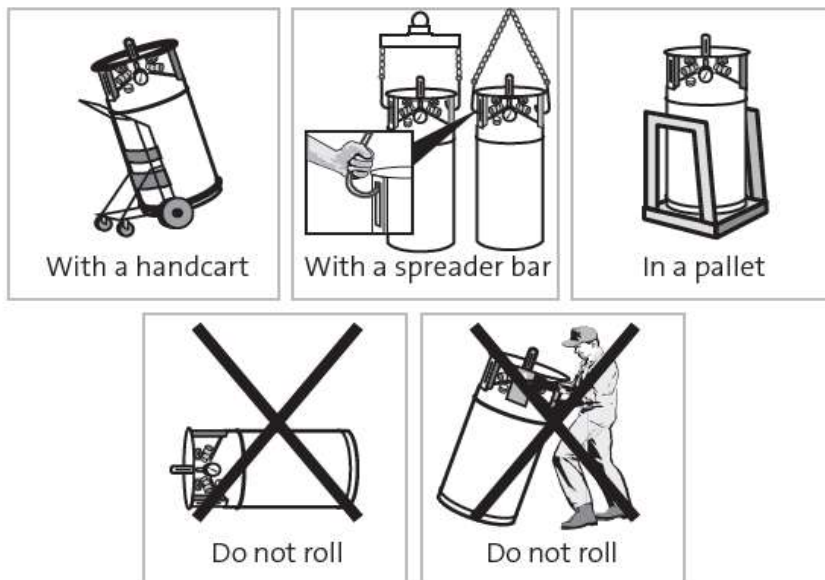

FIGURE 1. HOW TO HANDLE LIQUID CONTAINERS
7.5.1.2 Liquid containers should only be transported in an upright position and should never be laid on their side. For proper ways to handle a liquid container is as given in **Fig 1**. Never roll these containers on their side. Liquid containers equipped with wheels should always be moved by pushing the container, never pulling it. This reduces the possibility of the container falling on co-worker in the event it becomes unstable. Pushing the liquid container up any type of grade will increase the force necessary to move it. A grade as low as 5 percent (5 inch rise in 10 feet of travel) will increase the force necessary to start to push the container by as much as 50 percent.